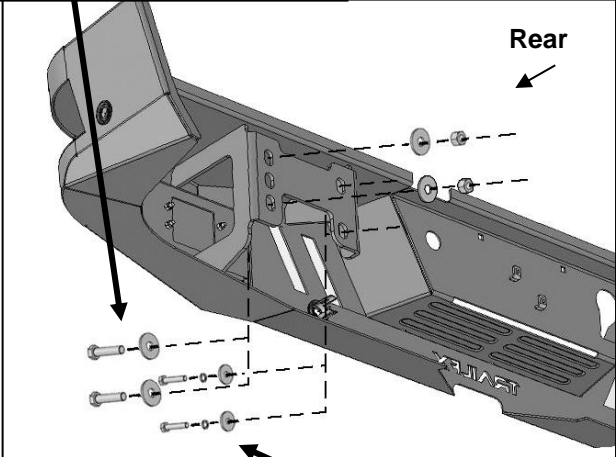

Fig 13
7. With assistance, position the Bumper Assembly up to the bumper brackets on the end of the frame, **(Figure 13)**. Temporarily support the weight of the Bumper Assembly. **WARNING:** To avoid possible injury or damage to the vehicle, do not proceed until the Bumper is fully and safely supported.
8. Line up the (2) outer holes in the passenger/right frame mounting bracket with the (2) holes in the plate on the back of the Bumper. Attach the Bumper to the frame bracket with (2) 12mm Hex Bolts, (4) 12mm Flat Washers and (2) 12mm Nylon Lock Nuts, **(Figures 13)**. Leave hardware loose at this time. Repeat to attach the driver side of the Bumper to the frame bracket.